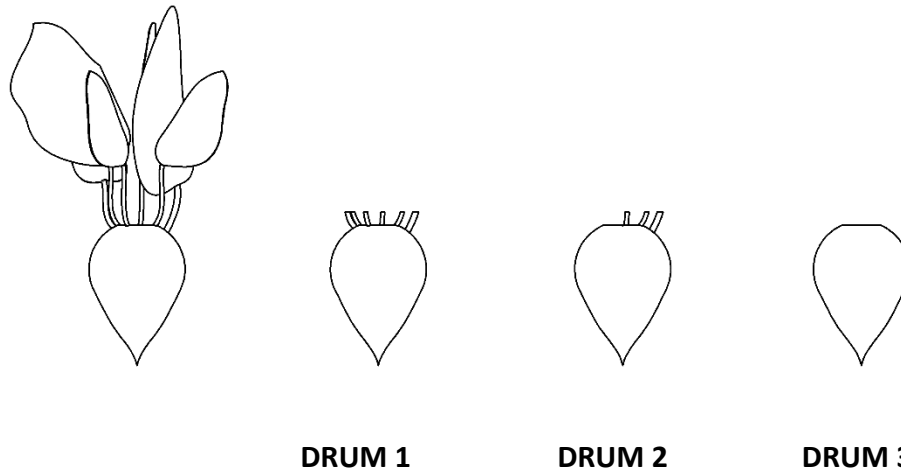

Figure 25: Defoliation Process
a few petioles or leaf stems for the 2nd and 3rd drums to remove from the crown of the beet. The rear two drums which are designed to be run level with each other, counter rotate so the flails hit from different directions to clean the front and back of the beet crown as illustrated in Figure 25 below. This is where the 50 series and 00 series differ significantly and described in the following sections.
7.2.4 50 Series The design feature that enables the 50 series defoliator to do more work faster is the shrouded front steel drum 1. The shrouded drum 1 is able to remove the majority of foliage leaving only a couple of inches of petioles and keeping the rear drums clear of excess leaves allowing them to perform their jobs more effectively. Drum 2 rotates with the direction of travel its job is to clean the front side of the beet as shown in Figure 25. The 2nd drum has 10 sets of flails compared to the 6 of the rear drum because of the rotational direction makes for a less aggressive cleaning action. Drum #3 rotates against the direction of travel used 6 sets of flails and its flails contact the back half of the beet removing the final petioles from the beet crown. By looking to see where the petioles remain will let you know if the 2nd, 3rd or both drums need to be raised or lowered. Lower or raise the hitch to adjust for level and lower rear struts to adjust drum 2 and drum 3 flail height. Both hitch and rear strut adjustments will affect the other drum so double check flail heights for both drums after making any adjustments.